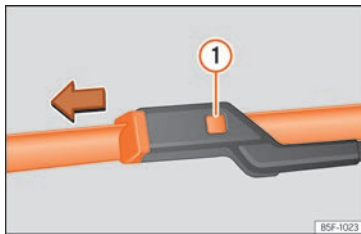

Fig. 43 Changing the windscreen wiper blades
- Press and hold release button »» Fig. 43 ❶ and pull gently on the wiper blade in the direction of the arrow.